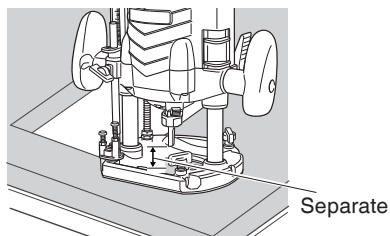

Fig. 15
- (1) As shown in Fig. 15, remove the bit from the work pieces and press the switch lever up to the ON position. Do not start cutting operation until the bit has reached full rotating speed.